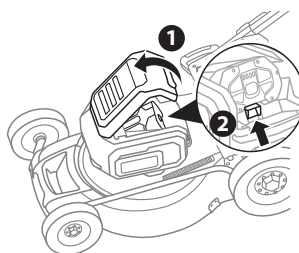

Fig. 7B
1. Lift open the battery cover (1, Fig. 7B).
2. Lift the battery release latch (2, Fig. 7B). The battery will automatically disengage from the locking position.